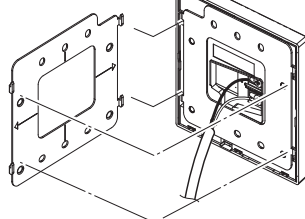
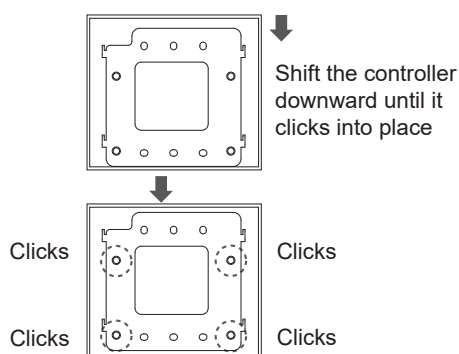
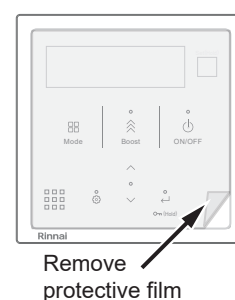

Fig. 2
Fig. 3
Fig. 4
6. After attaching the mounting bracket so that it connects into the hole of the remote controller (Fig. 2), shift the remote control downward until it clicks into place (Fig. 3). Remove the transparent protective film on the front of the remote controller (Fig 4).